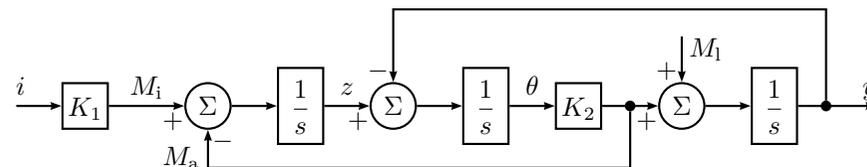

Figure 8.3a
8.3 The block diagram in Figure 8.3a describes an electric motor that drives a load via an elastic axis. Here i is the driving current to the motor, which gives the torque M_i . z is the turning rate of the motor and y is the turning rate of the load. θ is the angle of the transmission axis. $M_a = K_2\theta$ is the torque this angle causes. M_1 is the torque from the load. Give a state space description for the system with M_1 and i as inputs and y as output. (There are at least two different ways to solve this problem.)